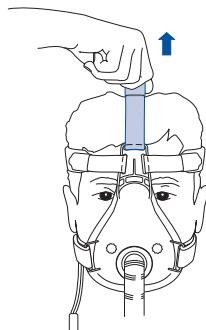

Figure: 5
**5** Adjust the top Velcro strap (Fig. 5) with very slight tension to add stability to the fit of the mask. The mask should be secure but not overly tight.